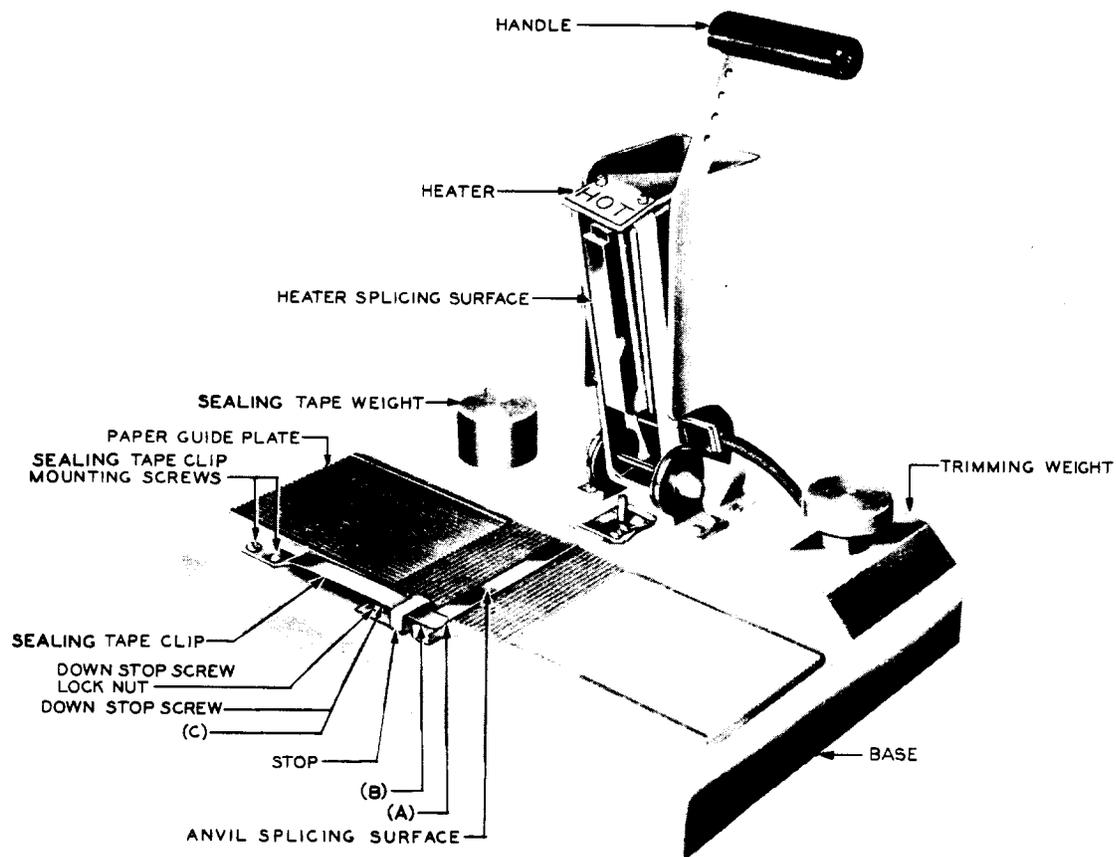

Fig. 1 - Nos. 604A and 604D Splicers (No. 604D Splicer Illustrated)
2.03 Pressure of Sealing Tape Clip Against Anvil: Figs. 1(A), 2(A), and 3(A) - The pressure of the sealing tape clip against the anvil shall be
2.04 Position of Sealing Tape Clip on Anvil: Figs. 1(B), 2(B), and 3(B) - The sealing tape clip shall bear approximately flat on the anvil.
2.05 Clearance Between Sealing Tape Clip and Downstop Screw: Figs. 1(C), 2(C), and 3(C) - There shall be a clearance between the sealing tape clip and the tip of the downstop screw, but this clearance shall not exceed 0.015 inch.